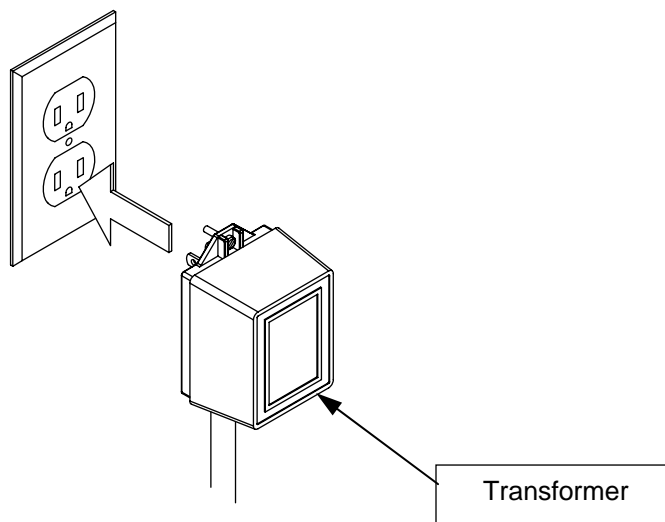

Figure 6
Step 6: Plug in the water heater and the transformer to power the Setback Control. This is shown in Figure 6.